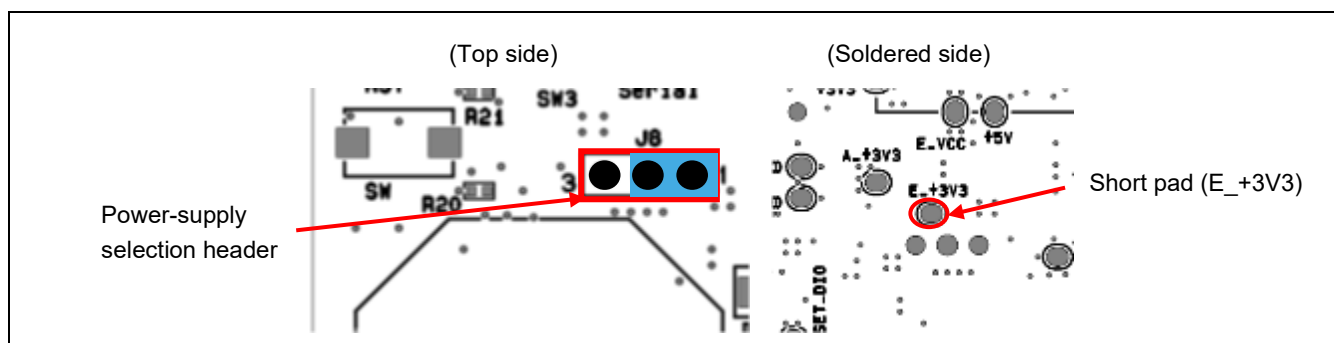

Figure 5-17 Settings to Select the Use of +3.3 V (J8)
- 1-2 of J8 being short-circuit and the short pad (E_+3V3) being removed select +3.3 V (Figure 5-17).